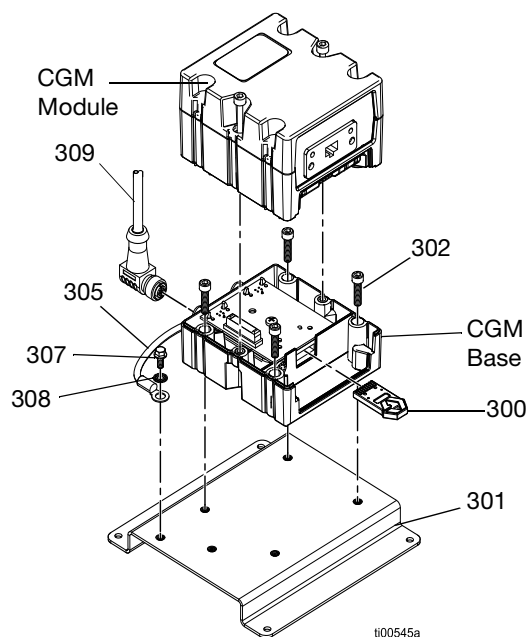

FIG. 111: CGM Assembly
2. Install the washer (303) and ground screw (304) through the other end of the grounding wire (305). Secure the ground screw (304) to the mounting plate (301). See FIG. 111.